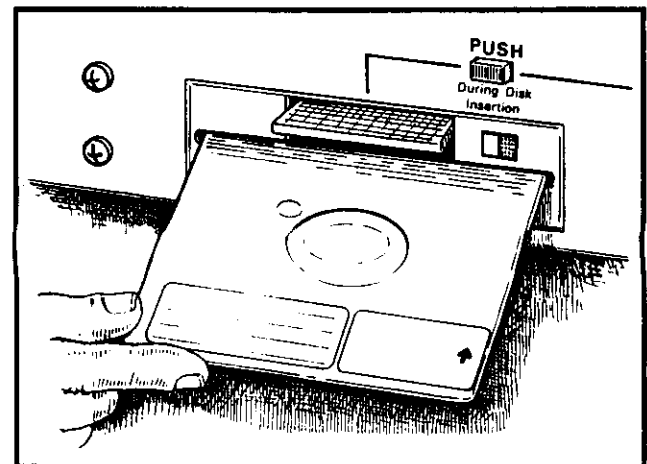

FIGURE 44—INSERTING DISKETTE
- 4) Place the diskette in the drive, with the title applique on the disk facing up (Figure 44). **D.02** software requires the use of two diskettes. In this case, the **System** disk is inserted into FDD0. (If 2 disk drives are used, insert the **Maintenance** disk in FDD1).